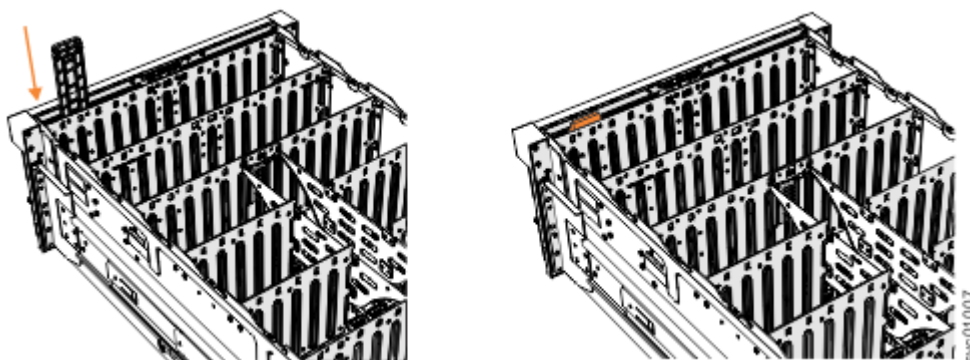

Figure 137. Installing the display panel assembly
6. Carefully align the display panel assembly in the slot at the front of the expansion enclosure, as shown in Figure 137 on page 174.